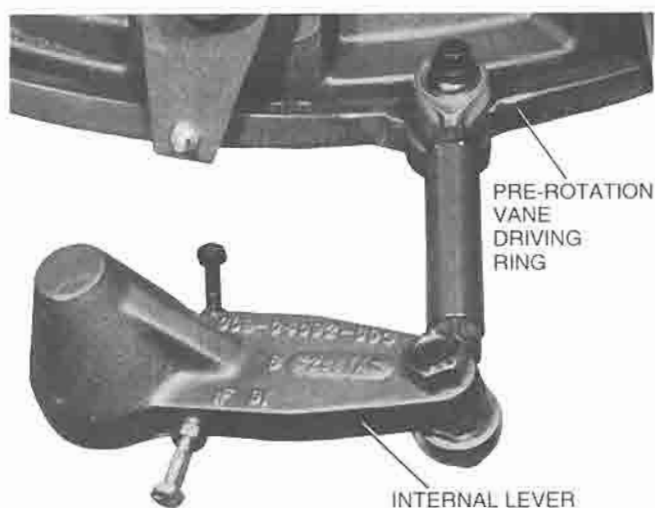

FIG. 36 – INTERNAL PARTS - PRE-ROTATION VANE ASSEMBLY
1. Remove the 12 pt. hd. cap screw and fillpiece to disconnect the adjustable bearing rod from the vane driving ring. (Refer to Fig. 36).